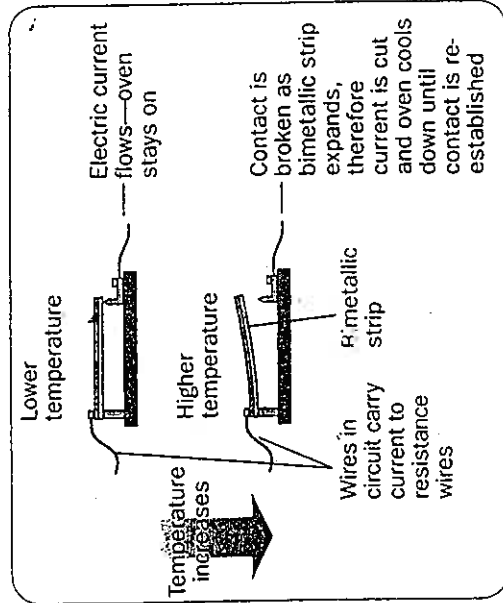

Figure 10.44 An electric thermostat control using a bimetallic strip
- Bimetallic strips are used in such devices as thermostat temperature controls (Figure 10.44). Explain how the thermostat works.